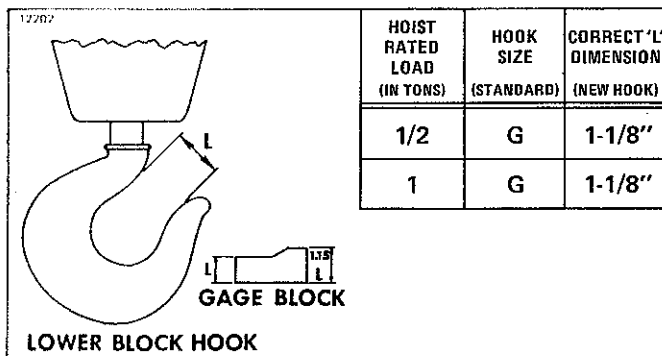

Figure 5-1. Proper Hook Opening.
f. Check throat opening of hook. (Refer to Figure 5-1.) It is recommended that upon receipt of the hoist a measurement be made and recorded of the hook throat opening. OSHA Standards require that the hook be replaced if the throat opening exceeds 15 percent of the original opening, or if the hook is twisted more than 10 degrees from the unbent plane. A gage block, properly identified to the hoist, similar to the one shown in Figure 5-1, is suggested to be made for each hook for use in these measurements.